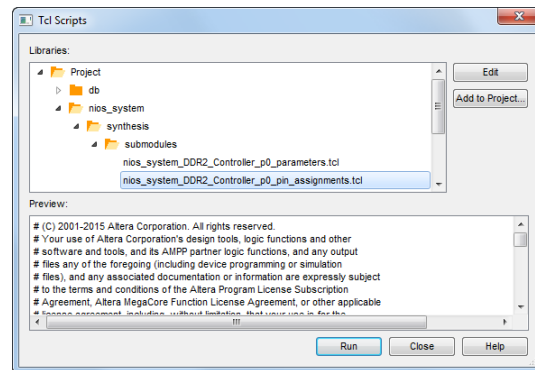

Figure 11. TCL Scripts window in Quartus Prime.
- Click Tools > Tcl Scripts... to open the window in Figure 11. Select and run the script Project > nios\_system > synthesis > submodules > nios\_system\_DDR2\_Controller\_p0\_pin\_assignments.tcl; the script is required to correctly set the differential pins needed by the DDR2 SDRAM Interface.